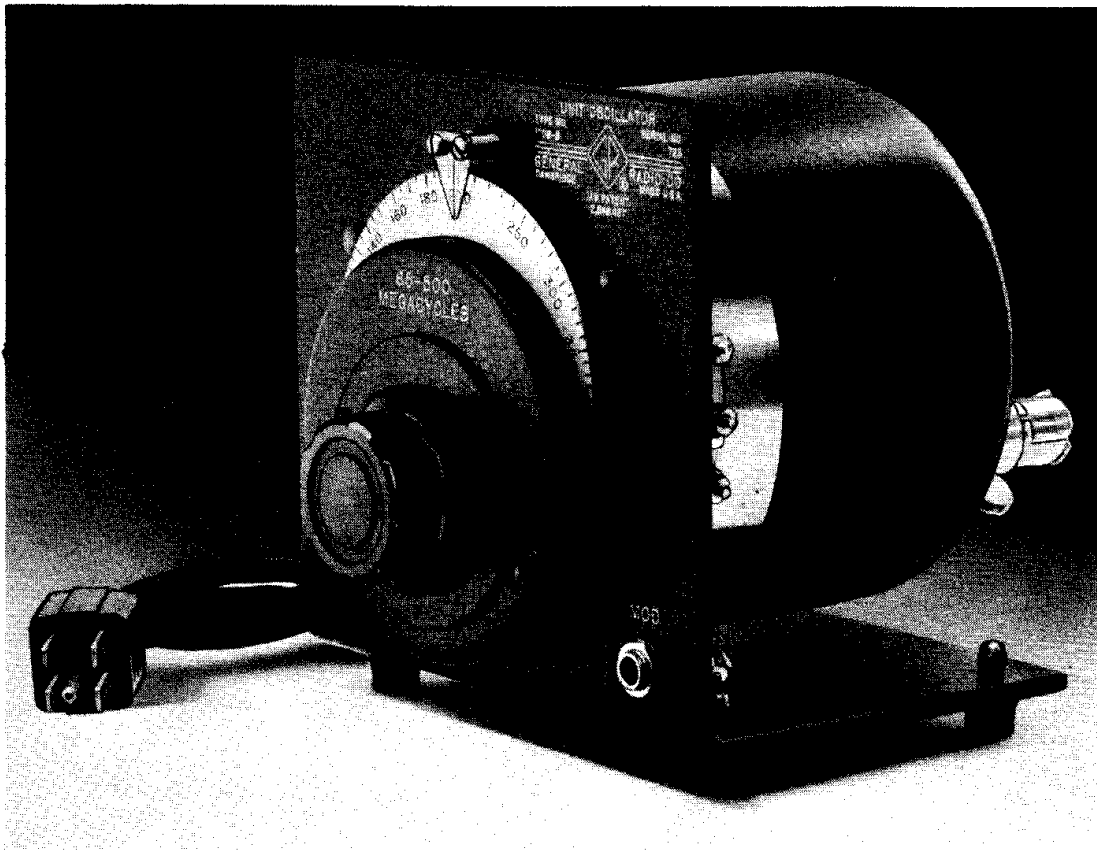

Figure 1.
1.1 PURPOSE. The Type 1208-B Unit Oscillator (Figure 1) is a general-purpose power source for the radio-frequency laboratory. Covering the range from 65 to 500 Mc, this member of the convenient Unit Instrument line can be used to drive bridges, slotted lines, impedance comparators, and other measuring equipment. Used with a voltmeter and attenuator, it provides an accurately known output voltage for the testing of receivers. Direct amplitude modulation is possible over the audio-frequency range, and amplitude modulation free from incidental fm can be obtained with a simple crystal-diode modulator over the frequency range from zero to 5 Mc. Connected to a mixer, the Unit Oscillator can be used as the local oscillator in a heterodyne receiver to convert a Type 1216-A Unit I-F Amplifier or a low-frequency communications receiver into a detector for v-h-f and u-h-f signals. Pulsing and linear 100-percent amplitude modulation can be obtained with an external balanced modulator.